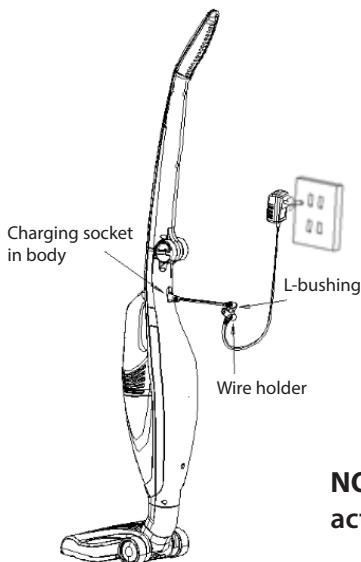

Fig. 12
4. Connect the DC plug to the DC jack at the back side of the cleaner main body. And then connect the AC plug to the local power supply outlet. The charging circuit will begin to charge the cleaner (see Fig. 12).